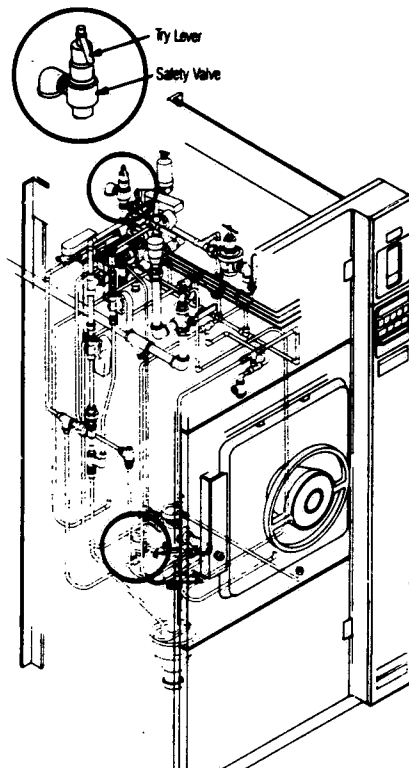

FIGURE 4-3 - Safety Valve and Steam Trap
3. Check safety valves (Figure 4-3) as follows: